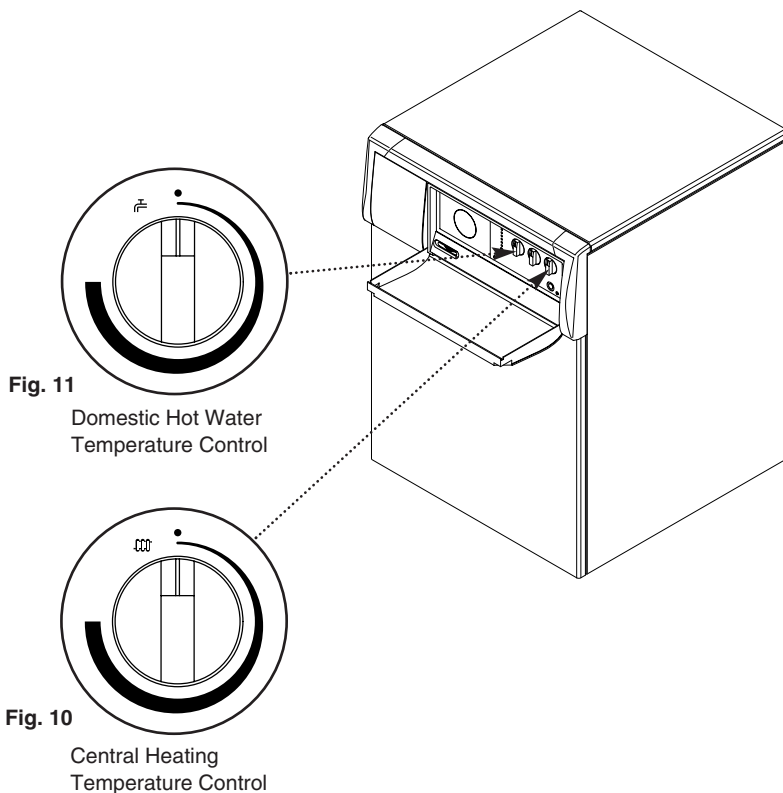

Fig. 11
4. **Domestic Hot Water:** The temperature of the domestic hot water can be adjusted up to a maximum of 65° C. Turn the control knob clockwise to increase the temperature (Fig. 11).